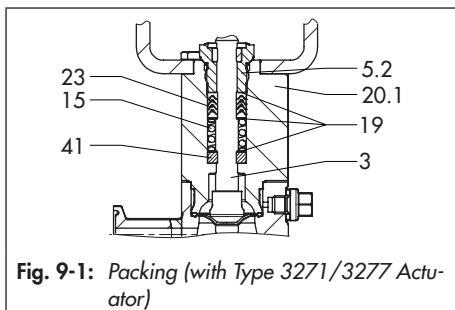
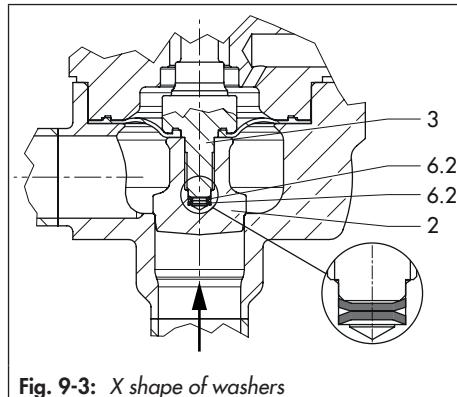
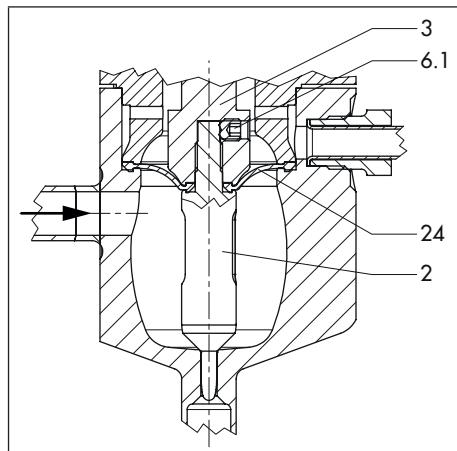
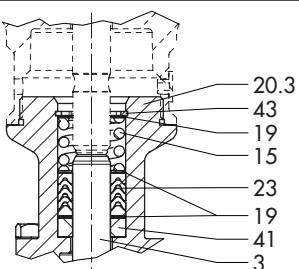

Fig. 9-1: Packing (with Type 3271/3277 Actuator)
Fig. 9-3: X shape of washers
Fig. 9-4: Threaded pin on the plug stem/plug
Fig. 9-7: Packing (with Type 3379 Actuator)
Legend for Fig. 9-1 to Fig. 9-4
5. **For micro-flow valve version:** unscrew threaded pin (6.1) (see Fig. 9-4).
6. Unscrew the plug stem (3) from the plug (2).
7. Remove diaphragm (24).
8. **For standard version:** remove retaining washers (6.2) (see Fig. 9-3).
10. Apply a suitable lubricant to the thread of the plug stem (3).
11. Screw a new plug (2) onto the plug stem (3) using a suitable tool. Observe tightening torques.
13. Unscrew the plug stem (3) from the plug (2).
14. **For standard version:** insert new retaining washers (6.2) inside the plug's threaded hole (they must be opposed to form an X shape) (see Fig. 9-3).
15. Insert a new diaphragm (24) into the new plug.
16. Screw the new plug (2) back onto the plug stem (3) again using a suitable tool. Align the plug stem with the mounted position mark made earlier. To do this, clamp the plug into a suitable clamping fixture (e.g. vise with soft protective jaws) and pull it with a suitable tool.
18. **For micro-flow valve version:** secure plug (2) with threaded pin (6.1) (see Fig. 9-4).
21. Push the plug (2) together with plug stem (3) and diaphragm (24) into the standard yoke (20).
22. Place the standard yoke (20) together with the plug stem (3), plug (2) and diaphragm (24) onto the body (1).
23. Apply a suitable lubricant to the bolts (34).
24. Tighten the screws (34) on the standard yoke (20) gradually in a crisscross pattern until the valve bonnet touches the body flange.
Legend for Fig. 9-3 to Fig. 9-7
21. Push the plug (2) together with plug stem (3) and diaphragm (24) into the valve bonnet (21).
22. Apply a suitable lubricant to the thread of the valve bonnet (20).
23. Screw the actuator onto the valve bonnet (21).
25. Screw the plug stem (3) together with plug (2) and diaphragm (24) onto the actuator stem. Observe tightening torques.
26. Place the actuator and valve bonnet (21) together with the plug stem (3), plug (2) and diaphragm (24) onto the body (1).
27. Apply a suitable lubricant to the bolts (34).